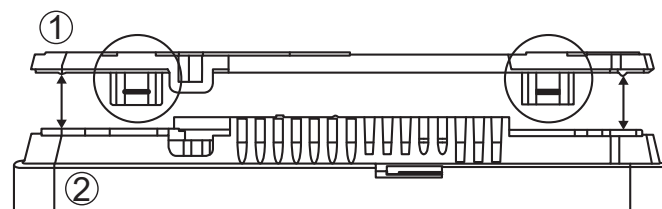

Figure 3-2: Touchscreen display & back plate
1. Detach the mounting plate from the back of the touchscreen display. The plate is attached to the touchscreen with latches. Use a flat screwdriver to detach the plate. (See Figure 3-2)